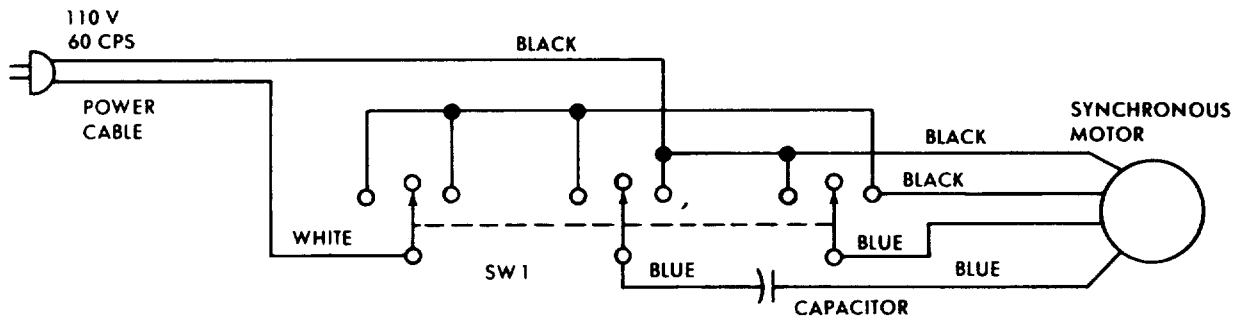

Figure 7. Motor-reducer wiring diagram.
Defective L-R switch	Use a voltmeter or test light to test for line voltage at output terminals of switch (fig. 7). Replace switch (para 45) if no voltage is indicated.
- (1) Install power cable (32) and new strain relief (31).
- (2) Position motor-reducer (30) on base (98), making sure teeth of gear (33) mesh properly (0.005-inch clearance). Install screws (29).
- (3) Install capacitor (28) and secure with screws (27).
- (4) Install power cable, capacitor, and motor leads to rear of L,-R switch (5), using tags installed during removal and figure 7 for reference.
- (5) Install case assembly (para 45b).
- (2) Position brush holder plate (37) with brush holder assemblies (items 43, 42, and 40) in proper position. Secure with screws (36).
- (3) Install plate (38) to adapter (100) and secure with screws (35).
- (4) Using tags installed in a(5) above, install clips (41) in brush holders (40).
- (5) Connect power cable (:32) to L-R switch (5) using figure 7 as reference.